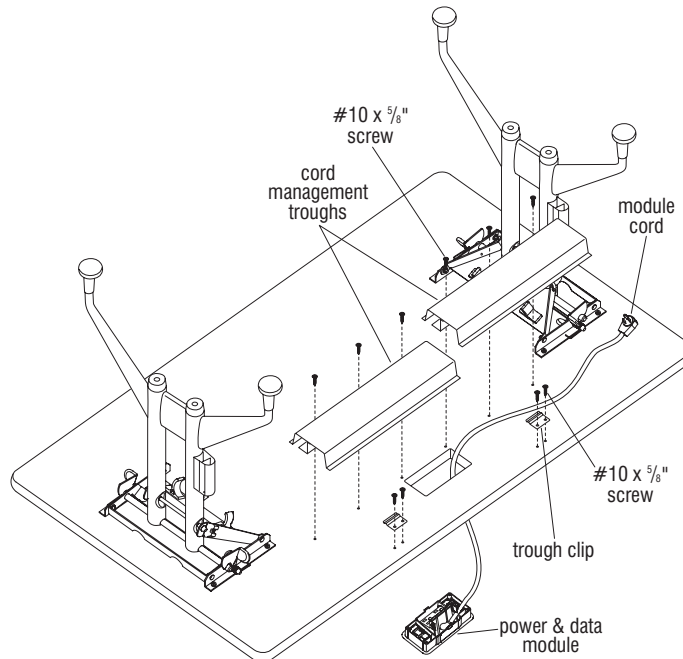

Figure 2
1. Position the table top upside down on a soft protective surface. For tables with the Folding Base, fold out the table legs by unsnapping each leg from the leg holder on the base. Then lift the table leg up 90°, making sure that the base locks securely into place by pressing down on the leg such that it engages the leg lock (Figure 2).
2. Carefully tip table up on edge. Position the power & data module over the topside as shown in Figure 2. From the topside, route the module cord through the module hole and snap the power & data module into place. Be sure that the module is closed (by pressing in on the "stars" in the module) and carefully set the table upside down again onto a soft protective surface.
3. Position trough clips over the pre-drilled holes in the table top and secure with two #10 x 5/8" screw, not to exceed 25 in/lbs of torque (Figure 2).
4. Position the mounting holes of both cord management troughs over the pre-drilled holes in the table top. Secure the troughs to the table top with #10 x 5/8" screws, not to exceed 25 in/lbs of torque (Figure 2). Do not over tighten screws.
5. Route the module cord and/or optional data lines through either end of the cord management trough (Figure 2). If the cord is to be routed the opposite direction that it comes out of the module, make a 6" loop with the cord to change direction (Detail A).
6. Slide the flange of the cord management trough under the trough clips to secure the trough to the table (Figure 2).